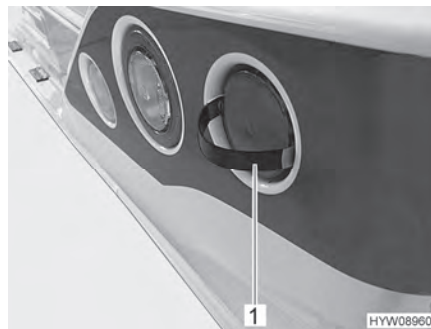

Fig. 153 Remove the cover
- Insert the snap-in lugs of the supplied tool (Fig. 153,1) at the sides of the cover as shown.